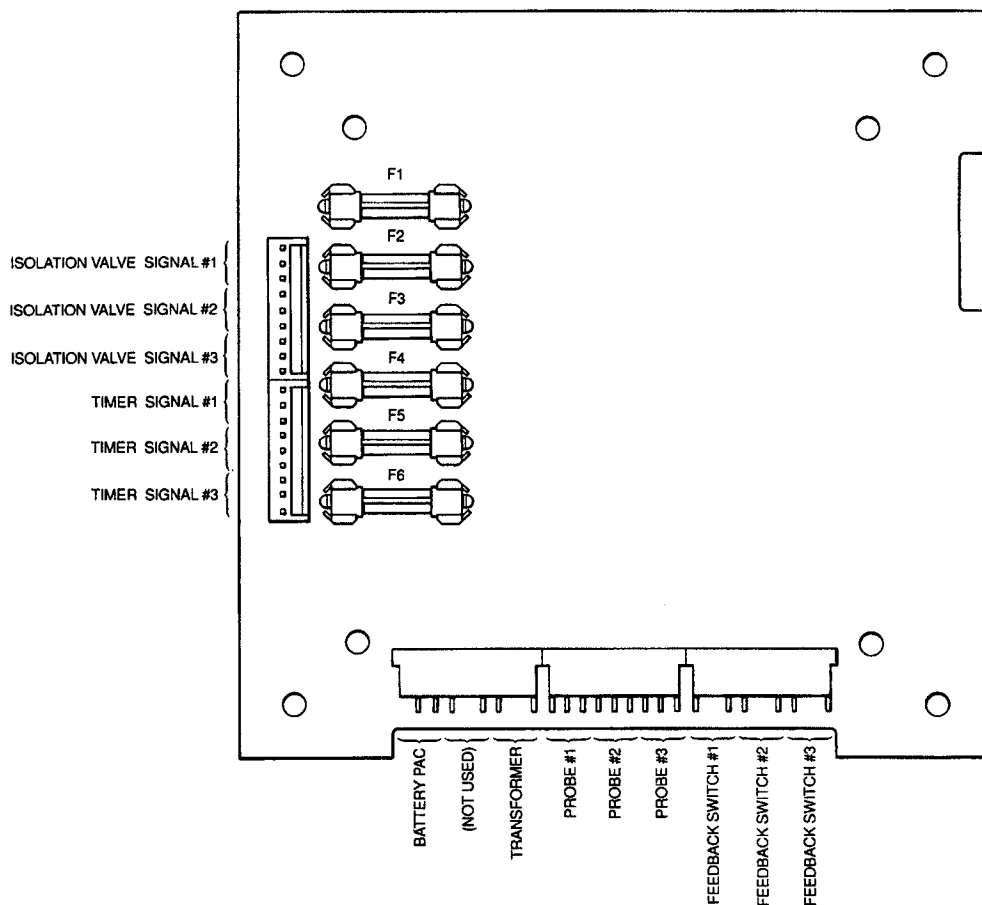

Figure 5
2. Disconnect the battery backup from terminal J1C (see Figure 5).
1. Attach the red connector to the connector pins J1C on the lower (power) board, see Figure 5.